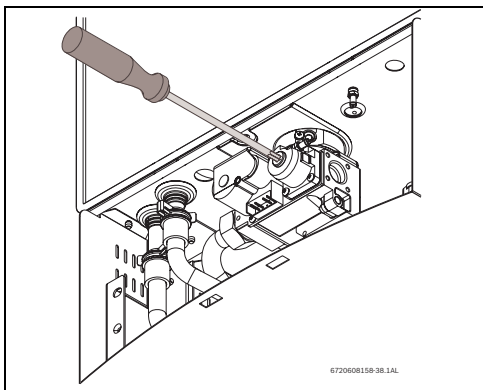

Fig. 53 Adjusting P2 CO₂ level
- Reinstall Torx protection cover, Fig. 53 .